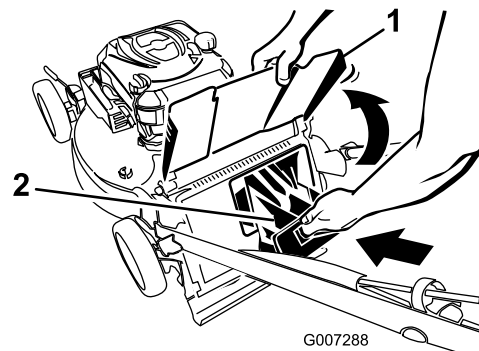

Figure 24
4. Install the rear discharge plug (Figure 24).